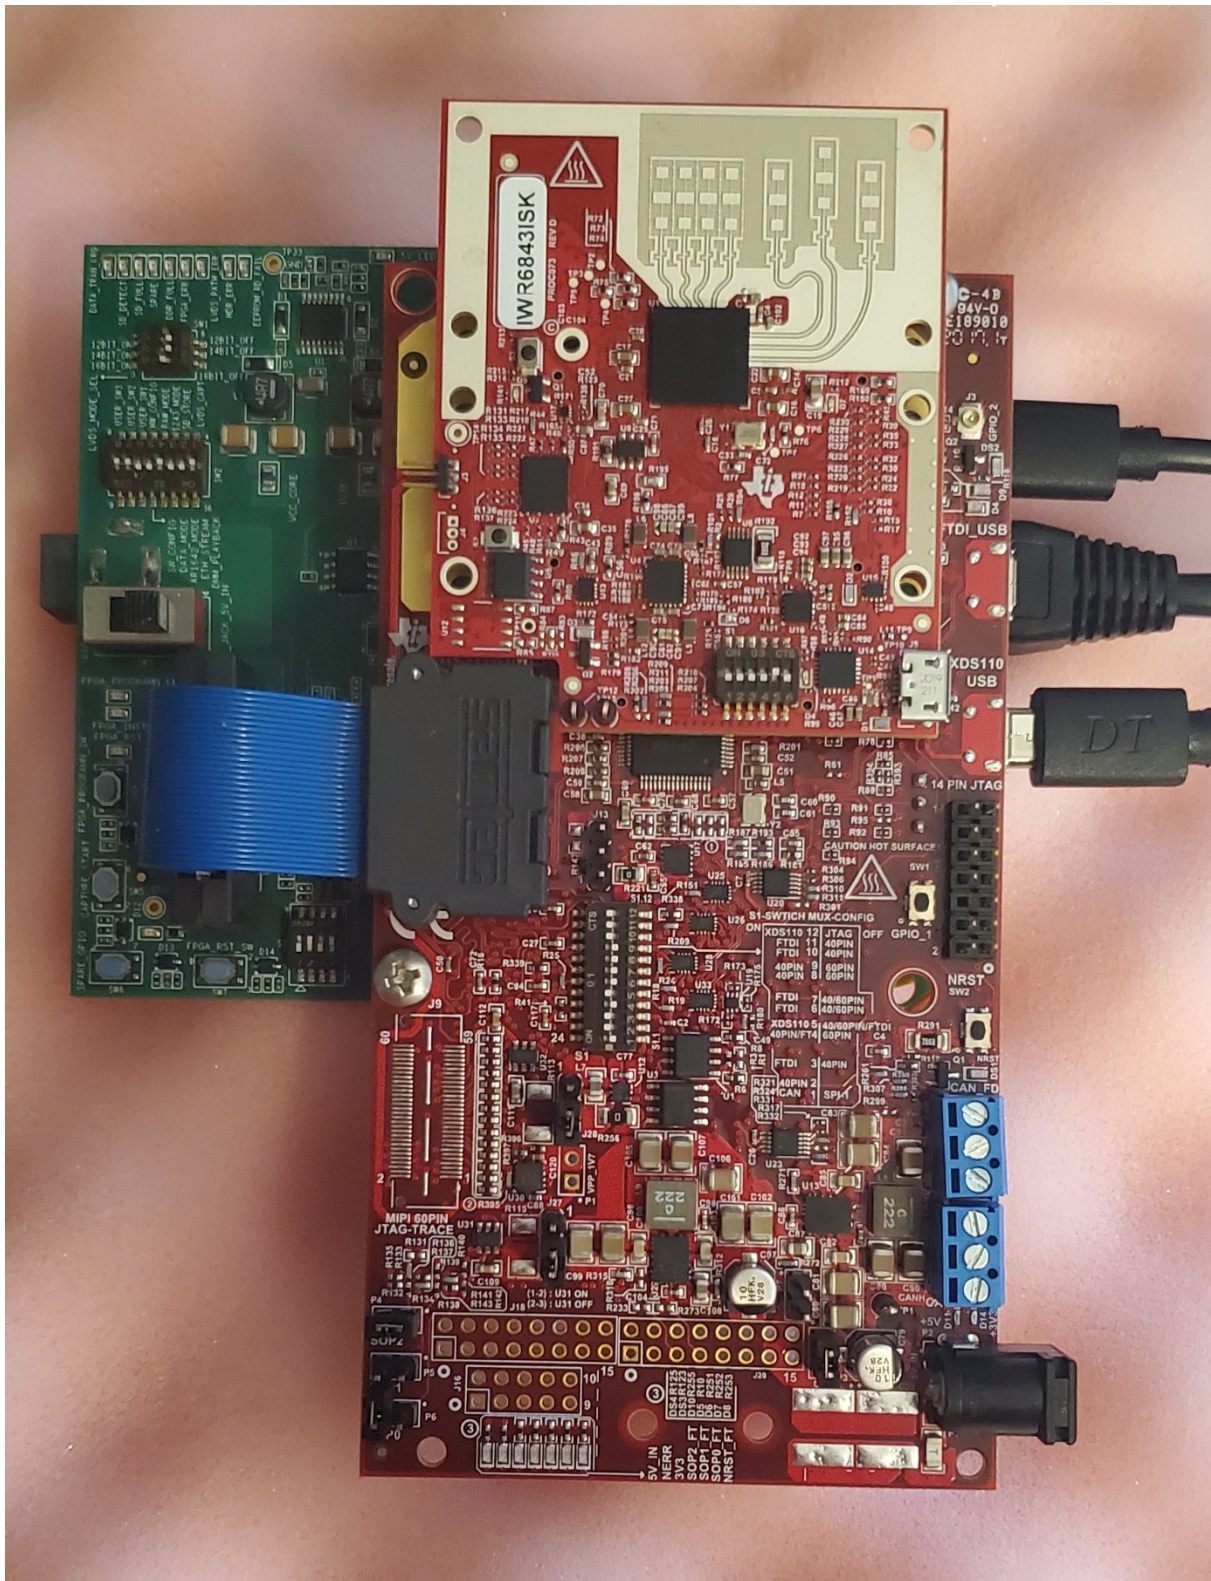

Figure 10 - IWR6843ISK/ICBOOST/DCA1000EVM
- There is only one possible way to attach the 6843 to the ICBOOST. See figure 10 below.